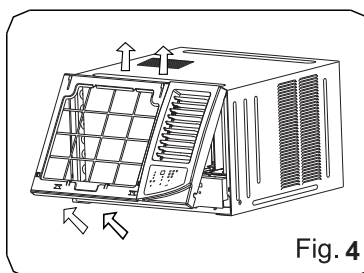

Fig. 4
2. Grasp the left corner of the frame's underside, release the coupler plugs, then loosen the frame (See Fig.4).